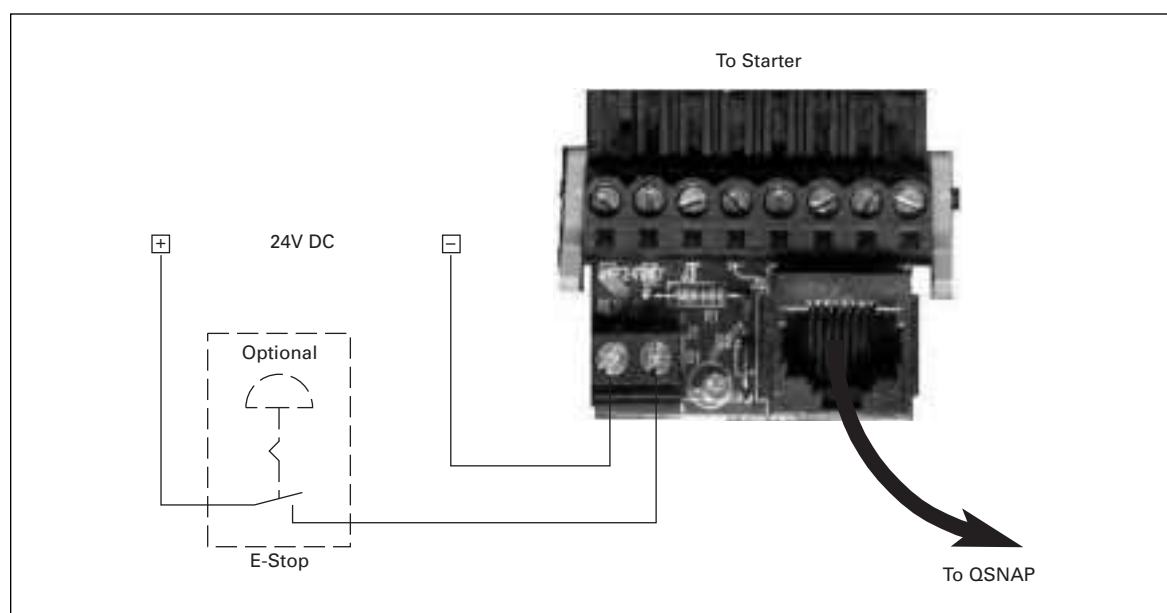

Figure 3: Starter Interface Connection
The power for the Eaton's Cutler-Hammer Intelligent Technologies (IT) Electromechanical Starter must be connected to the Intelligent Technologies (IT) Electromechanical Starter terminal, as illustrated in **Figure 3**.